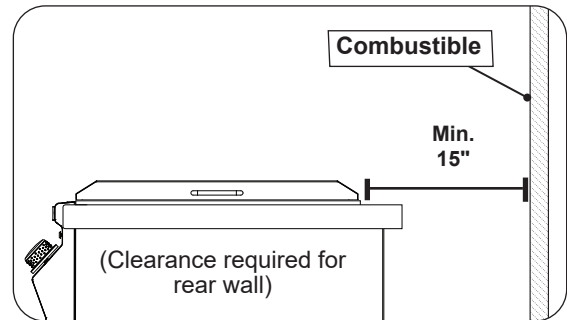

Fig. 18-3 Clearance 'C' Diagram
- The unit must have a minimum clearance of 15" from the combustible rear wall (see Fig. 18-3).